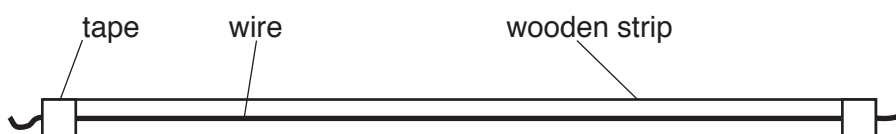

Fig. 1.1
- 2 The wire should be attached to the wooden strip as shown in Fig. 1.1. The wire should be firmly taped and as free from kinks as possible.